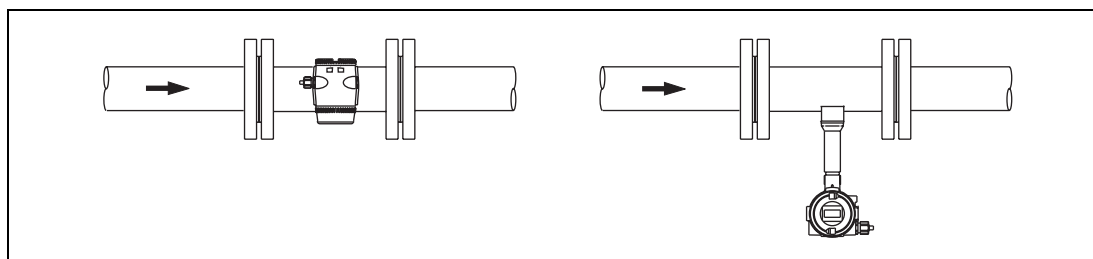

Fig. 3: Installations for High Fluid Temperatures > 150°C
- **for high fluid temperatures (> 150°C), the flowmeter primary should be installed so that the electronic assembly is mounted at the side or bottom of the flowmeter (Fig. 3 ).**